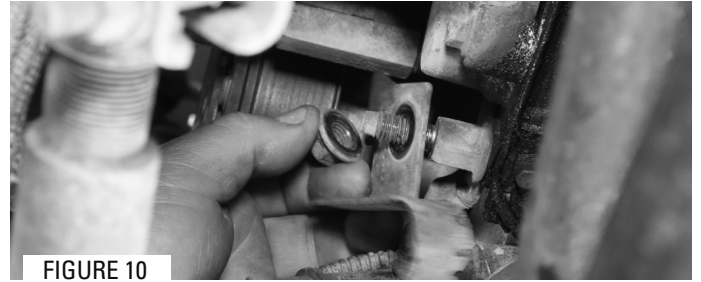

FIGURE 10
- 10** Using a 15mm socket, remove nut from stud holding positive battery cable bracket. Stud is located on lower front cover near the ac compressor (bracket will be reused on new cable). (Figure 10)